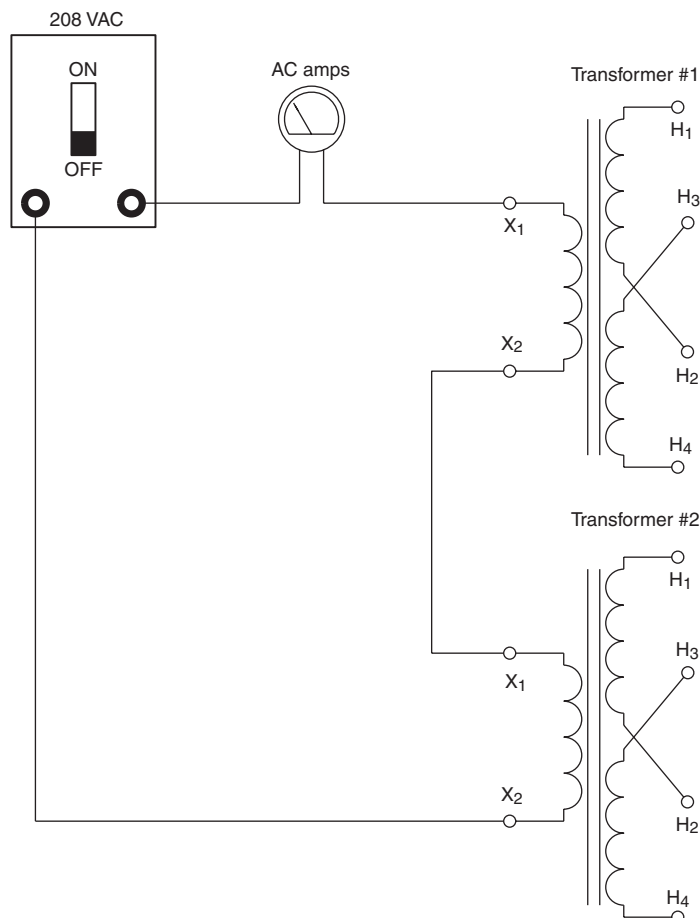

Figure 10-5 Series inductors.
31. Connect the circuit shown in Figure 10-5. Note that the power supply has changed to a 208 volt supply.